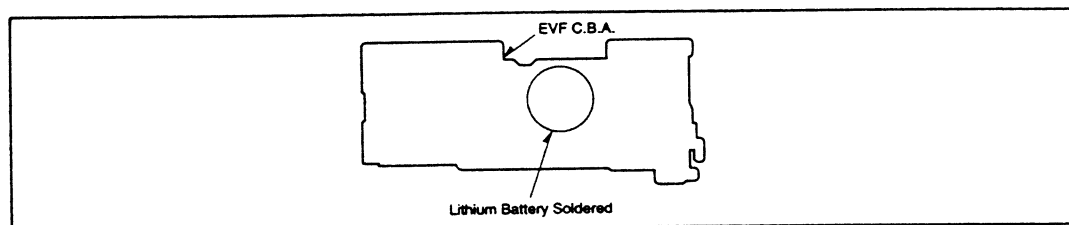

Fig. B1
2. Unsolder the Lithium battery "VL2020/1HF" and then replace the new one. (See Fig. B1)